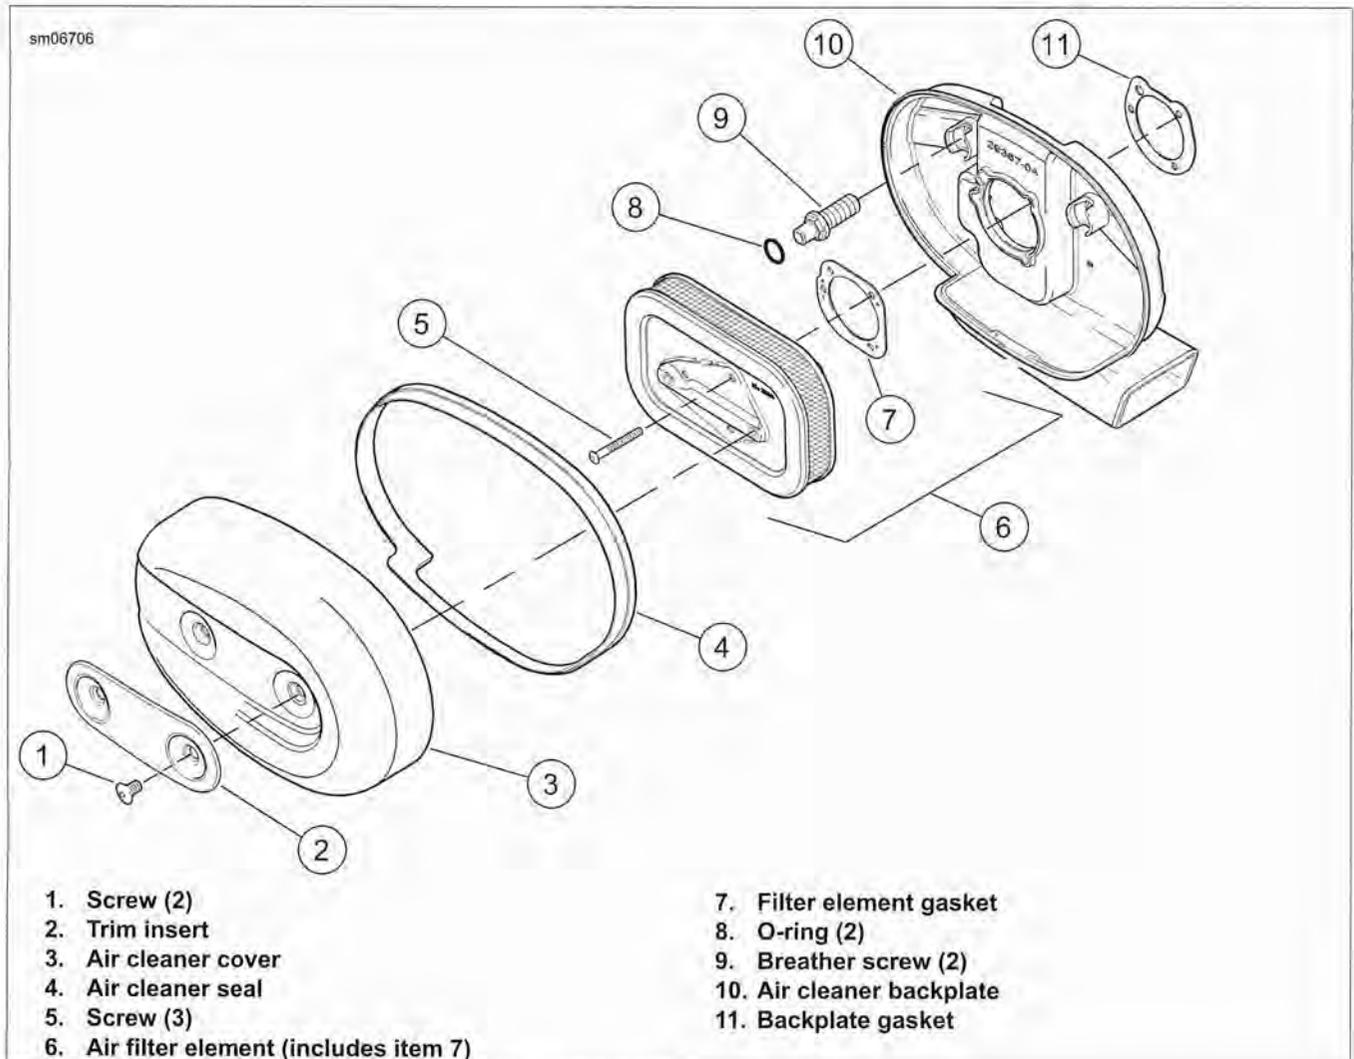

Figure 4-1. Air Cleaner Assembly
1. See Figure 4-1. Remove two screws (1) and trim insert (2) from air cleaner cover (3).
2. Remove air cleaner cover from air cleaner backplate (10). Remove air cleaner seal (4) from air cleaner cover.
3. Remove three screws (5). Remove air filter element (6) and gasket (7) from air cleaner backplate. Discard gasket.
1. See Figure 4-1. Thoroughly clean air cleaner backplate (10) and inside of air cleaner cover (3).
2. If air filter element (6) is damaged or if filter media cannot be adequately cleaned, replace element and proceed to step 6.
1. See Figure 4-1. Position **new** gasket (11) and air cleaner backplate (10) at induction module air inlet.
2. Obtain **new** breather screws (9) or apply LOCTITE THREADLOCKER 243 to existing screws. Secure air cleaner backplate to engine heads. Tighten to 84-120 **in-lbs** (9.5-13.6 Nm).
3. Apply a thin coat of engine oil or light grease to O-rings (8). This will help prevent them from being damaged when air filter element is installed.
4. Position **new** gasket (7) on air cleaner backplate. Make sure gasket holes are lined up with backplate holes.
5. Install air filter element (6) onto backplate. Secure with three **new** screws (5) or apply LOCTITE THREADLOCKER 243 to existing screws. Tighten to 40-60 **in-lbs** (4.5-6.8 Nm).
6. Install air cleaner seal (4) on air cleaner cover (3). For proper sealing, make sure air cleaner seal covers the entire edge of the air cleaner cover.
8. Install trim insert (2), and secure insert and air cleaner cover with two screws (1). Tighten to 36-60 **in-lbs** (4.1-6.8 Nm).